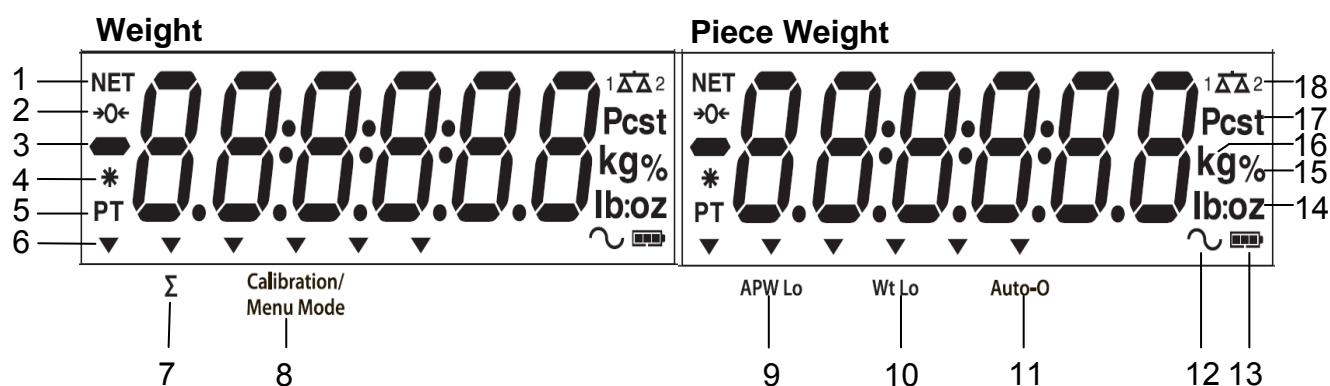

Figure 3-2. LCD Displays
The scale can be used on AC power immediately. Allow the battery to charge for 12 hours before using the scale on battery power. The scale will automatically switch to battery operation if there is a power failure or the power cord is removed. With AC power, the scale is constantly charging, so the battery charge indicator (see item 13 in figure 3-2) will remain lit. The scale can be operated during charging, and the battery is protected against overcharging.